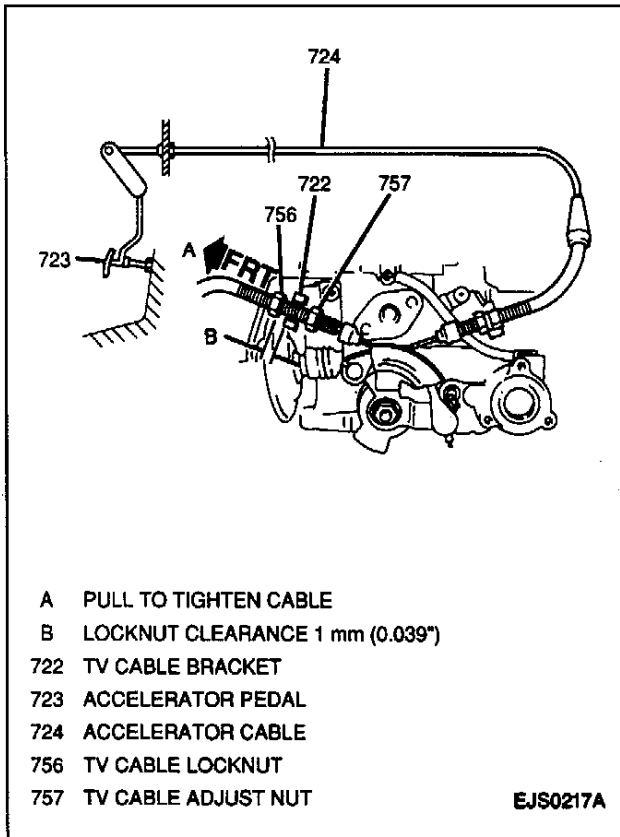

Figure 25—TV Cable Adjustment (Typical)
Figures 25 and 26
- A. Pull the TV cable casing in direction "A" away from the throttle body until tight and no cable deflection exists (Figure 25).
- B. With the TV cable pulled tight, tighten the TV cable locknut to within 1 mm (0.039-inch) of the TV cable bracket (Figure 25).